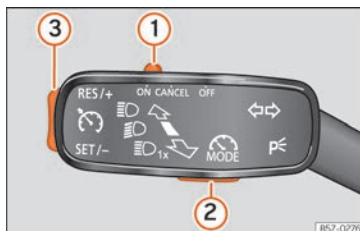
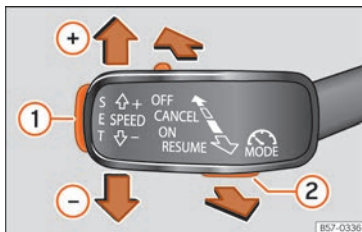

Fig. 226 On the turn signal lever: buttons to operate the speed limiter.
Fig. 227 On the left of the steering column: buttons to operate the speed limiter.
To change between the driving assistance systems, press button » » **Fig. 226 (2)** or » » **Fig. 227 (2)**
- Move control »» Fig. 226 ① to position **ON** and press button ②.
- While driving, press button »» Fig. 226 ③ in the area **SET/-**.
You can set the speed using button »» Fig. 226 ③:
- Move control »» Fig. 226 ① to position **OFF**.
If you want to temporarily deactivate the speed limiter, e.g. for overtaking, move the control »» Fig. 226 ① to position **CANCEL** or press button ②.
After overtaking, the speed limiter can be activated with the previously programmed speed by pressing button »» Fig. 226 ③ in the area **RES/+**.
- Move the lever towards the steering wheel to position **ON** and press button **»»» Fig. 227 (2)**.
- While driving, press button **SET»»» Fig. 227 (1)**.
- Press the button **SET»»» Fig. 227 (1)** to reduce speed in small increments of 1 km/h (1 mph).
If you want to temporarily deactivate the speed limiter, e.g. for overtaking, move the lever to the pressure point **CANCEL** or press button **»»» Fig. 227 (2)**.